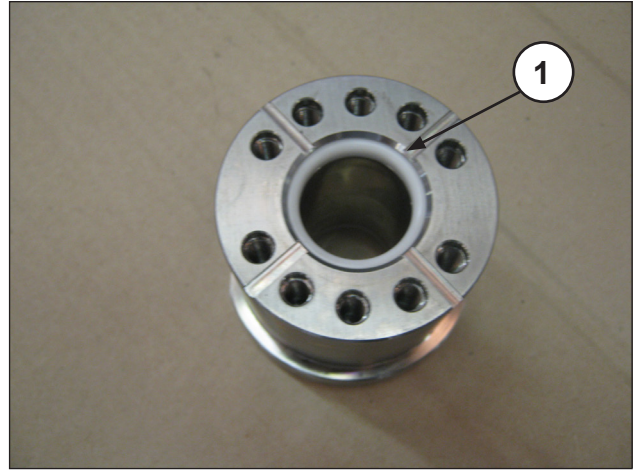

Fig. 37
- Insert the seal into the liner (Fig. 37, pos. ①).